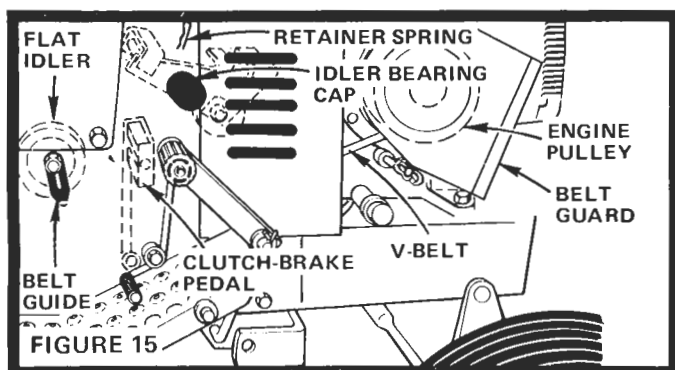

FIGURE 15
A new V-Belt may stretch after the first few hours of operation. If Clutch-Brake Pedal, in drive position (Fig. 15), is considerably to the front or rear of the vertical position, the V-Belt is out of adjustment and must be re-tensioned.
- a. Idler Bearing (Fig. 15)
- Remove Spark Plugs and Belt Guard and turn Engine Pulley (Fig. 15) clockwise by hand until 21°BTC mark on gear cover aligns with mark on flywheel. Turn another 1/4 turn to ensure points are fully open.